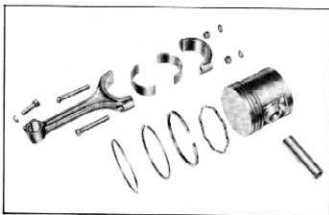

Fig. 64—1953 Powerglide Piston Assembly
1. Place the piston in piston vise J-1218. Assemble the rod to the piston and install the piston pin. Before tightening the clamp screw, center the piston pin in the piston and the connecting rod in the center of the two piston pin bosses. Figure 64 shows component parts of the 1953 Powerglide piston assembly.